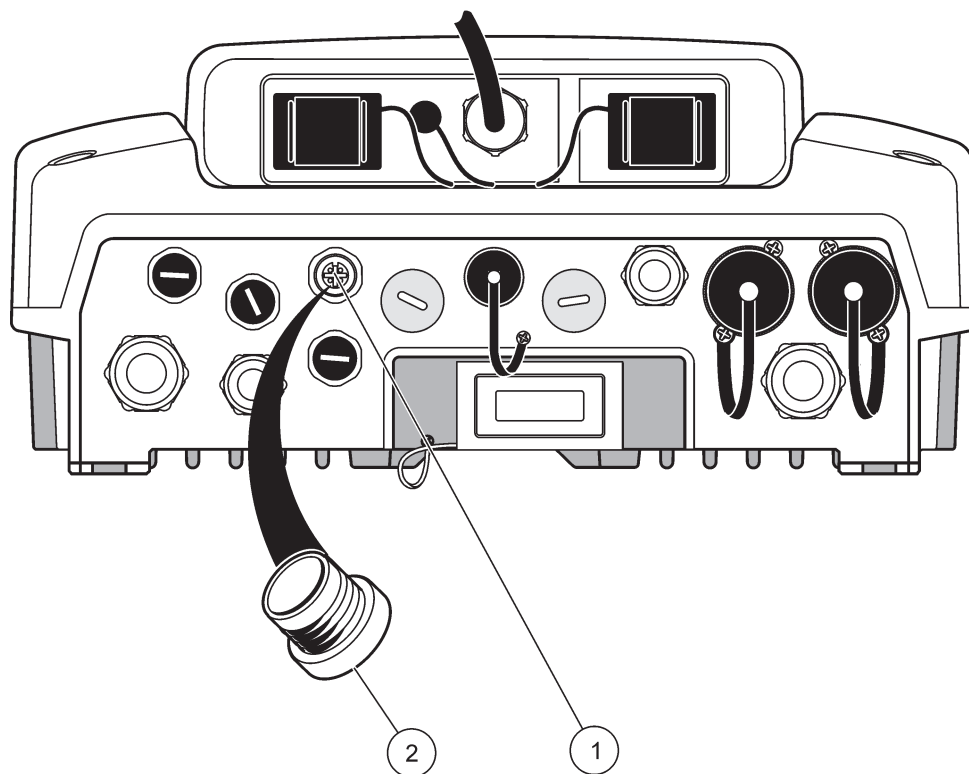

Figure 33 Removing the protective cover
- 1. Unscrew the protective cover on the controller socket (Figure 33). Retain the protective cover. When you remove the probe, re-fit the protective cover.